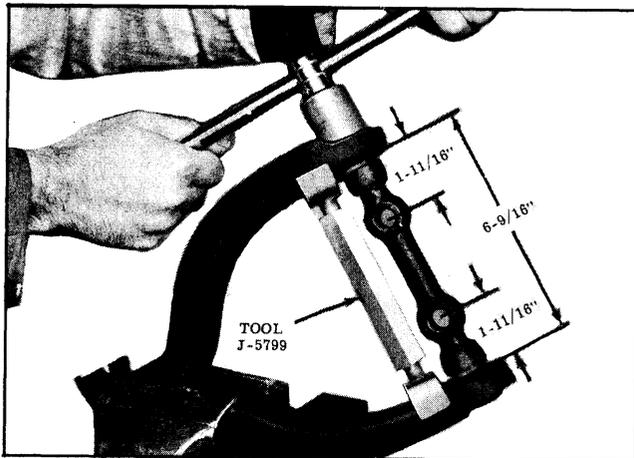

Fig. 4-11 Upper Pivot Shaft Installation
1. Place Tool J-5799 in position and expand until distance between inside surfaces of inner ends of upper control arm is 6-9/16". (See Fig. 4-11)